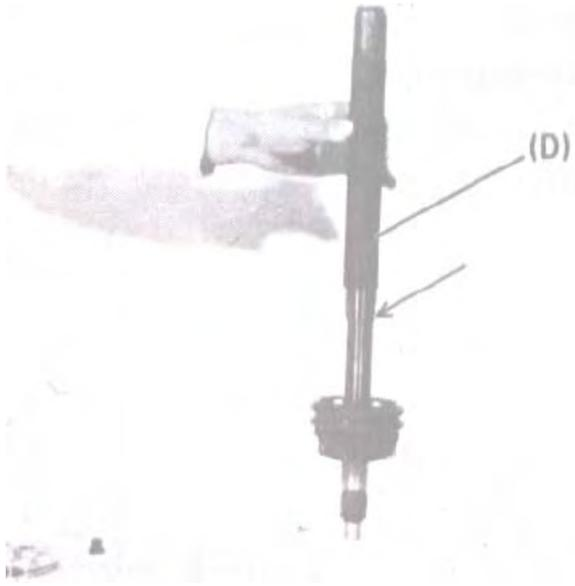
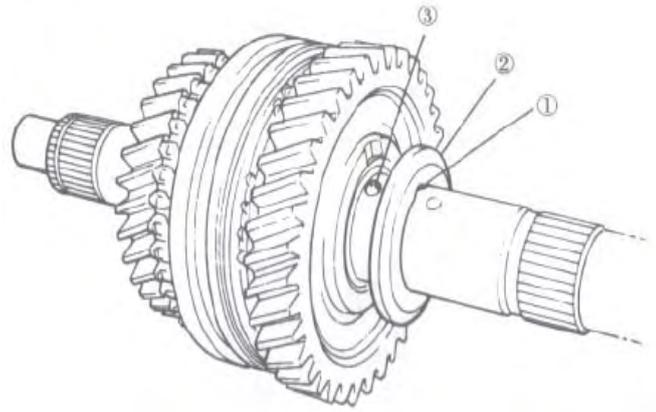

Fig 10-57
Fig 10-58
Then using hydraulic press (D) (special tool), press-fit low gear bush. (FIG.10-57)
(2) install low gear needle bearing, synchronizer ring spring, synchronizer ring, low gear, ball and washer onto main shaft. Fit ball into hole in shaft and install washer so that ins slot ① comes over ball ③.
To direct washer correctly, bring its circumference chamfered side ② to main shaft centre bearing. (FIG.10-58)